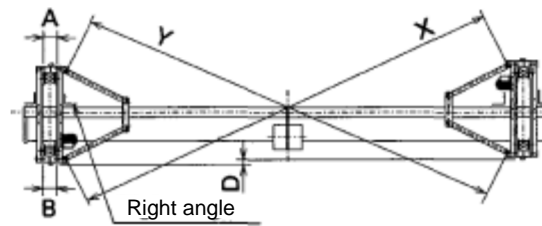

Fig. 2
- (c) Precautions in installation (Refer to Fig. 2)